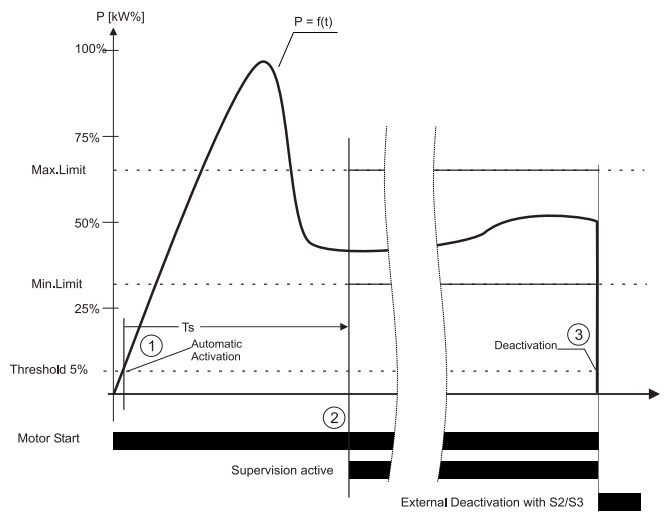

Figure 4.1 Activation / deactivation
A startup of the driving motor is detected by the APM450 through a rise of the measured power consumption; When the measured load reaches the activation threshold of 5% of the entered power range, the start timer T_s is activated (1). After expiration of this timer all supervision functions are made active (2) - see figure 4.1.